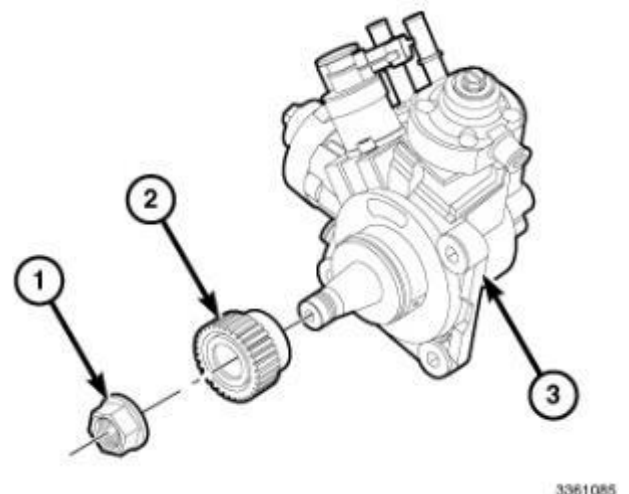

Figure 135 – Gear Removal
- 74. The use of Puller 1023 or a commercially available gear puller is required to remove the fuel injection pump gear (Figure 135).
NOTE: The use of Puller 1023 or a commercially available gear puller is required to remove the fuel injection pump gear (2) (Figure 135).